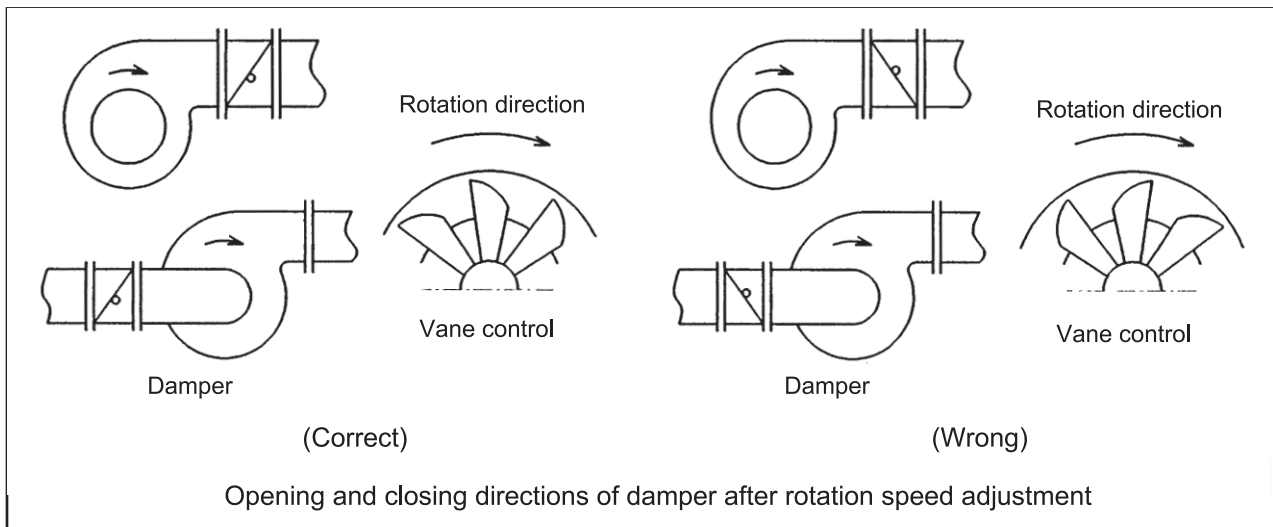

Figure 17 – Damper mounting method
- (1) Referring to the dimensional outline drawing that is submitted separately, install the damper in place. At that time, pay attention to the rotation direction of the fan's impeller (see Figure 17).